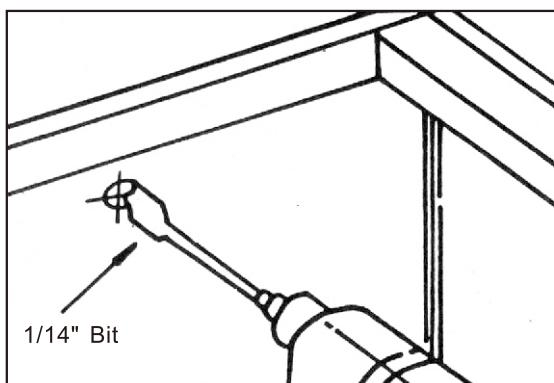

Fig. 9 Drill an acces hole for electrical power line
5. On the cabinet, mark the position of the access hole through which the power supply cord will go. Drill the access hole with a 1-1/14" screwdriver. (Fig. 9)